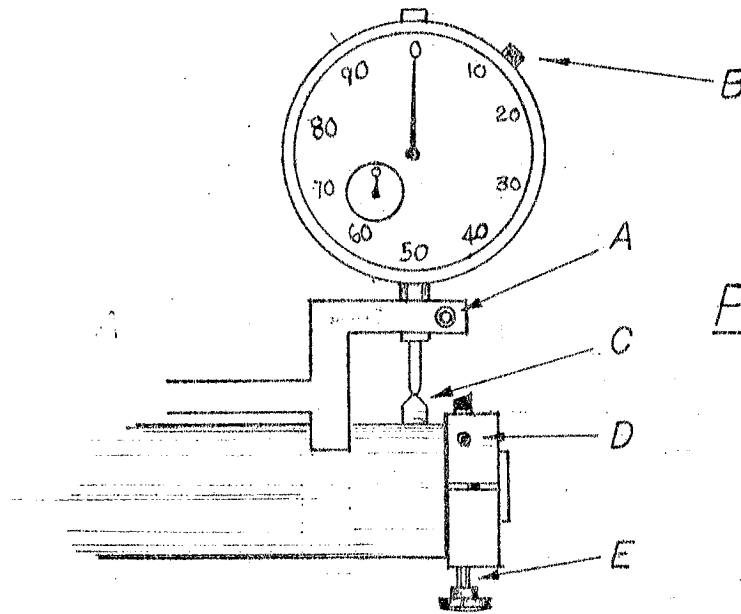

FIGURE 1
2. TO SET THE DIAL GAUGE, place the proper Cutter Holder on the Setting Standard with the line on the Cutter Holder matching the line on the Setting Standard. Tighten the Cutter Holder on the Setting Standard. Select proper cutter (short cutter with Small Cutter Holder) and place cutter in holder. With flat part of carbide facing toward set screw (D), slightly tighten set screw (D).
Place indicating unit on the Setting Standard so stylus is on point of Standard Tip (C, Fig. 1). To adjust indicator so both hands are on zero, loosen set screw (A). Adjust indicator so small hand on small dial is zero and large hand is straight-up. Rotate Indicator Holder back and forth slightly to get highest reading on the dial. Loosen Knob (B) and turn indicator dial face to zero. Tighten Knob (B). At this reading, your Indicator should be set at 3.000 inches.
3. TO SET THE CUTTER, place Indicator unit so stylus is over the tip of the cutter. Rotate the Indicator unit slightly back and forth to get the highest reading on the dial. Using Hex Key (E), force cutter up to proper bore size as shown in Chart #1. See illustration for proper dial reading. Tighten set screw (D). Using Hex Key (E), back off cutter adjusting screw into Setting Standard shaft.
LOOSEN Screw "A" (FIGURE 1). Adjust indicator when the indicator stylus in on the highest point of the Standard Tip. The small dial should be on zero and the large hand is straight up. Tighten Screw "A". Now Loosen Knob "B" and turn dial face to zero. Tighten Knob. At this reading your indicator is set at 3.000 inch.